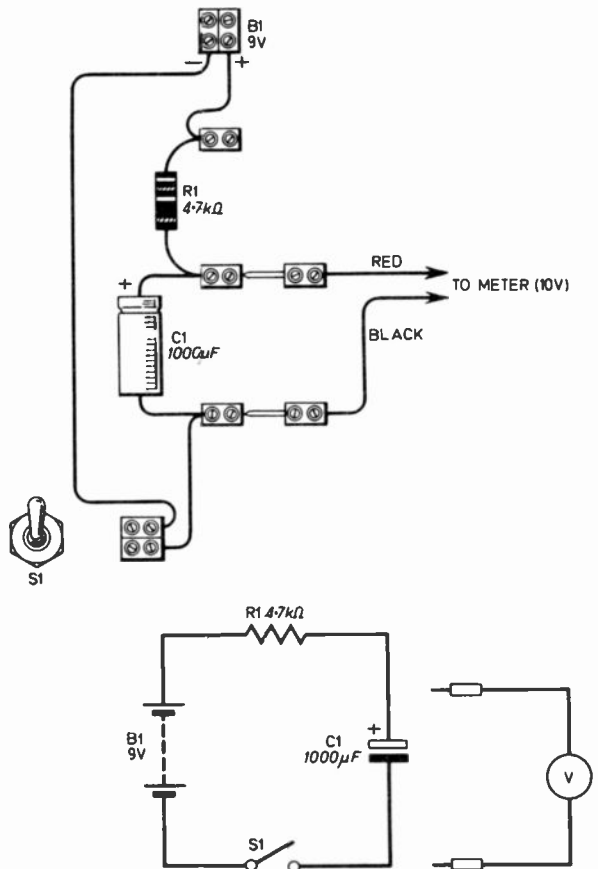

Fig. 4B.1. Shows the layout and wiring up of the components on the Circuit Deck for experiment 4B. Also shown is the theoretical circuit diagram.
1. Assemble the 1000 microfarad capacitor, the 4.7 kilohm resistor and then wire up the 9 volt battery and switch as shown in Fig. 4B.1.